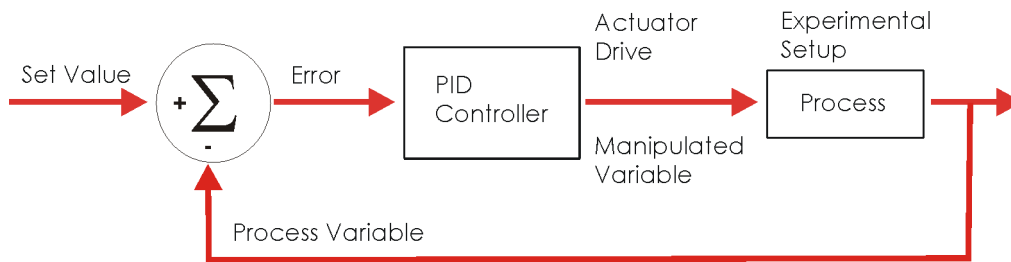

Figure 128 PID controller feedback loop
To obtain a good lock, it is necessary to optimize the gain settings of the PID controllers. Once a suitable Lock-In Output signal (Error signal) is at hand, the feedback loop (see Figure 128) can be closed and optimized. The general working principle of the Proportional-Integral-Differential (PID) controller is to minimize the deviation of a physical measure (Process Variable) from a selected Set Value by modifying the actuator drive (Manipulated Variable) accordingly. The output of the controller is a weighted sum of the integral (I), proportional (P), and differential (D) paths scaled by the overall gain. The digital PID controllers in the DLC pro allow for a precise and reproducible control of the gain settings.